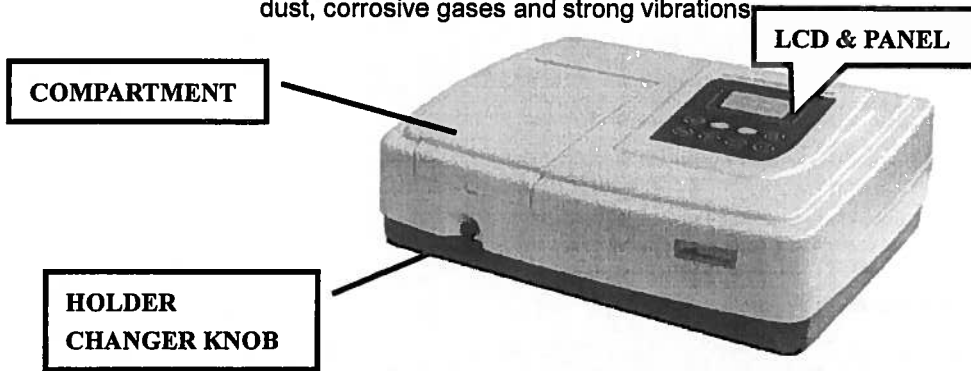

Fig.1-3
2. Place the instrument (Fig.1-3) in a suitable location away from direct sunlight. In order to have the best performance from your instrument, keep it as far as